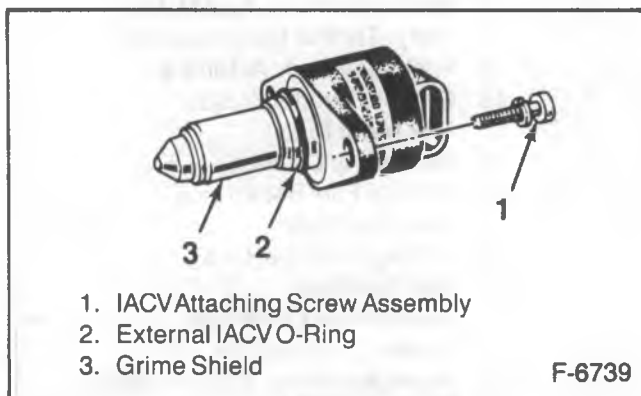

Figure 4—Flange Mounted Type IAC Valve
- On flange-mounted units, remove screw assemblies (figure 4).